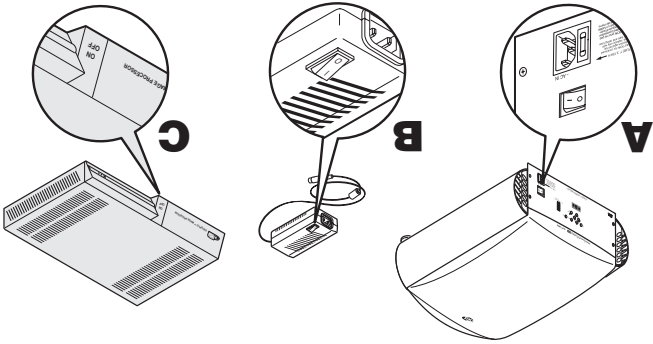

Fig.13
1) Set the projector power switch on the rear panel to "I" (start-up) (Fig.13 phase A).
2) Set the DigiOptic™ Image Processor power switch on the external power supply unit to "I" (ON) (Fig. 13 phase B). In this phase make sure the DigiOptic Image Processor ON/OFF button (Fig. 13 phase C) is in the OFF position: in this condition the indicator LEDs on the front panel of the DigiOptical Image Processor should not be lit.
3) Turn on the DigiOptic™ Image Processor by pressing the button on the front panel (Fig. 13 step C). After a few seconds (system initialisation interval), the DigiOptic™ Image Processor and the Projector assume stand-by mode. System status information is provided by two LEDs (green and blue) on the front panel of the DigiOptic™ Image Processor, a blue and green LEDs on the rear of the Projector. Significant status signals are given in Table 3.